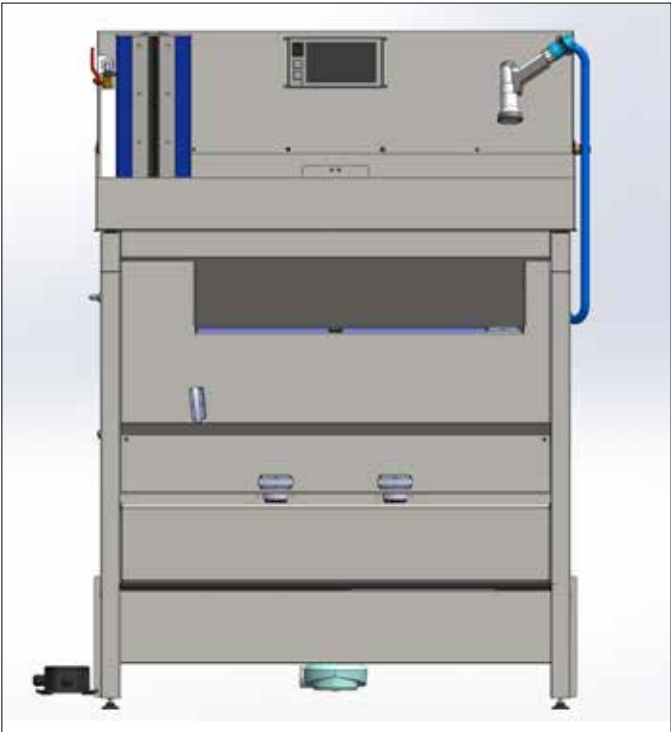

Fig. 1
Once the device has been positioned, connect the supplied drain (7) (Figs. 1, 2) to the existing drain pipe. The height of the existing drain must not exceed 100 mm.
- Clean the tools/containers with the hand shower (6) Fig. 1
- Cleaning the rollers in the TurboWash (5) Fig. 1, 2
- Switch on the system using the on/off switch on the control panel (4) Fig. 1